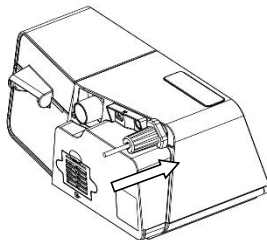

Fig. 12-6
(3) Insert the power cord locker into buckle of DC inlet, as shown in Fig. 12-6.